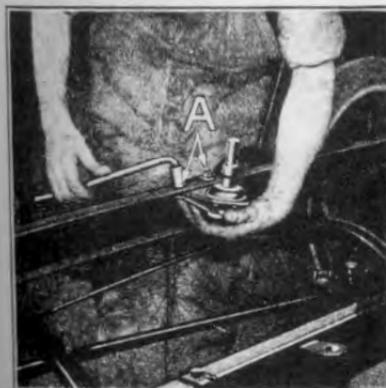

Fig. 49
- 52 **Remove starting switch** by running out the two starting switch bolts and nuts (See "A" Fig. 49).